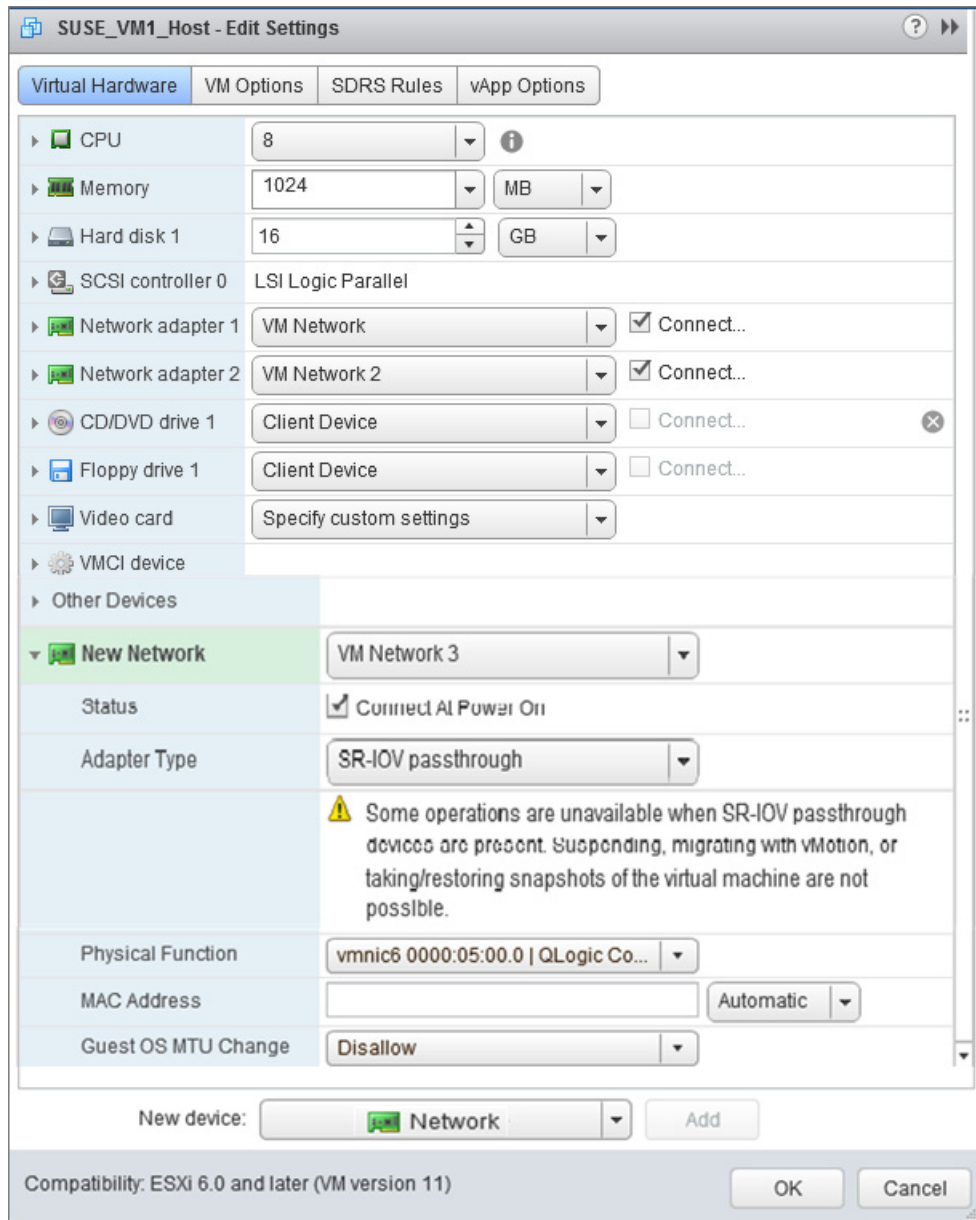

Figure 8-15. VMware Host Edit Settings
14. Complete the Edit Settings dialog box (Figure 8-15) as follows: